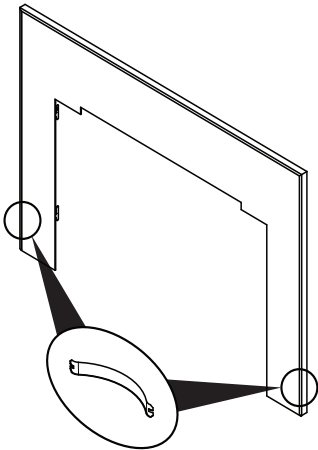

Figure 20.5
5. Install two steel springs on each side of the flat surround towards the bottom and the assembled trim kit (Figure 20.5).